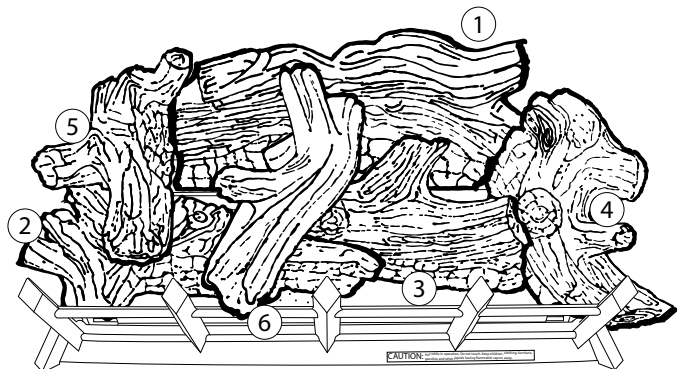

Figure 50
6. Place the top center log (#6) to the right of the pilot orifice allowing the log to rest on top of the front right log (#3) and the front left log (#2). (See Figure 50.)